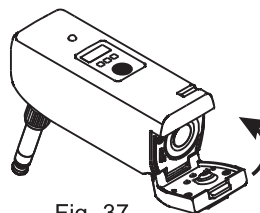

Fig. 37
(C) Carefully close the battery cover until the hinge is properly locked and secured, Fig. 37.
- (D) Keep the transmitter power off to preserve battery power after each use. Remove the battery when it will not be used for an extended period of time.
- (A) Insert MT-58 transmitter into the charger.